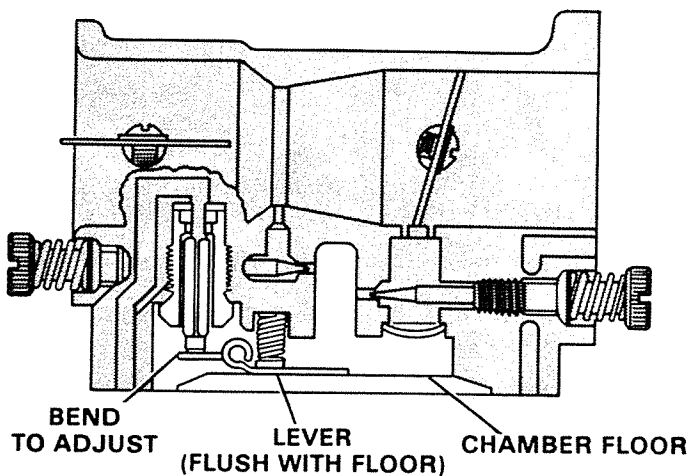

Figure 19. Checking Inlet Control Lever Position.
8. Check that inlet control lever is flush with floor of chamber; adjust by bending tab. Figure 19.